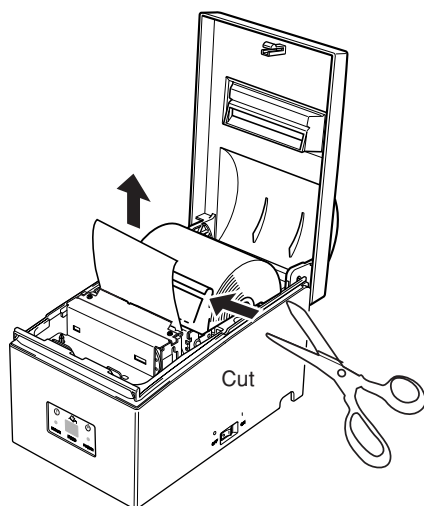

Fig. 5-16 Cutting the paper
④ Cut the paper before the paper feeder as shown in Fig. 5-16.